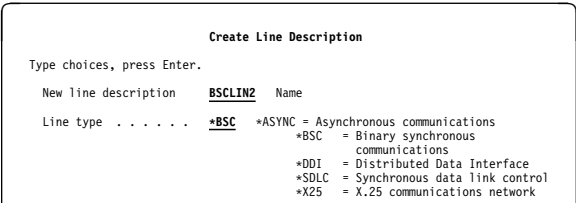

Figure 2-9. Create Line Description Display
Type a 1 in the *Option* column for the first row, then press the Enter key. You are then shown a Create Line Description display similar to Figure 2-9 on page 2-10.
- 2. The Create Line Description display (Figure 2-9) is displayed only if there is a protocol decision that you need to make. If you choose a resource that only supports one protocol (for example, an Ethernet adapter), the prompt display for the appropriate create line command (for example, CRTLINETH) is displayed next. The resource name and, if you filled it in, the name of the configuration object are filled in for you in this case also.